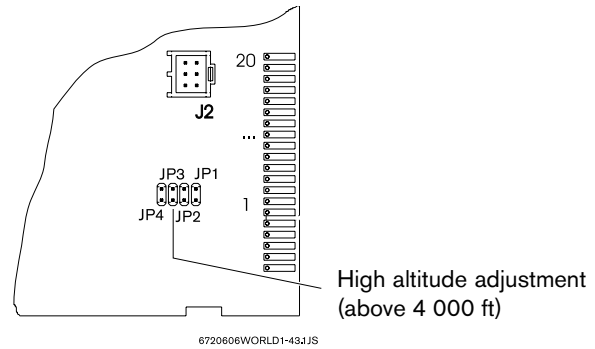

Fig. 26 Control board adjustment for high altitudes (above 4000 ft)
- ▶ Once open, locate JP3 on the printed circuit board (see Fig. 26). The board is supplied with a jumper placed on one JP3 pin, this means that one of the jumper sockets is connected to a JP3 pin and the other socket of the jumper is in the air. To make the high altitude adjustment complete, the jumper must be connected to both pins.
- ▶ Remove the jumper from the JP3 pin (see Fig. 26).